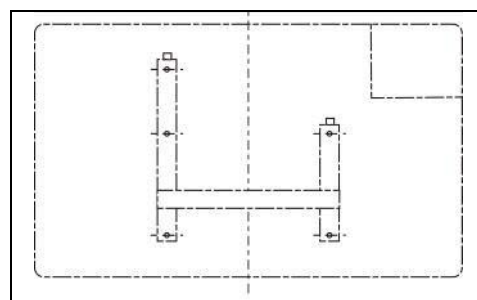

Figure 5.
6. The unit can now be hooked onto the wall mounting bracket through the four slots on the back. Please refer to the Figure 5.